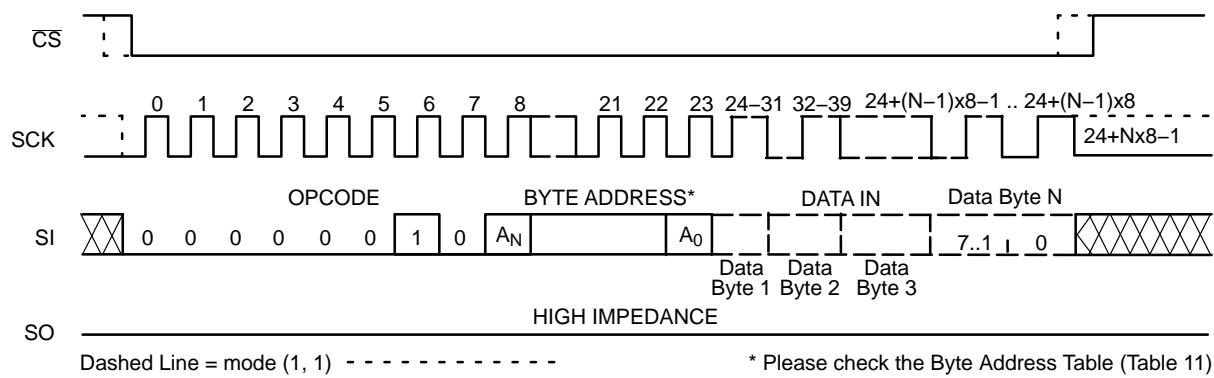

Figure 6. Page WRITE Timing
After sending the first data byte to the NV25xxx, the host may continue sending data, up to a total of 32 bytes, according to timing shown in Figure 6. After each data byte, the lower order address bits are automatically incremented, while the higher order address bits (page address) remain unchanged. If during this process the end of page is exceeded, then loading will "roll over" to the first byte in the
The additional 32-byte Identification Page (IP) can be written with user data using the same Write commands sequence as used for Page Write to the main memory array (Figure 6). **The IPL bit from the Status Register must be set ($IPL = 1$) using the WRSR instruction, before attempting to write to the IP.** The address bits [A15:A5] are Don't Care and the [A4:A0] bits define the byte address within the Identification Page. In addition, the Byte Address must point to a location outside the protected area defined by the BP1, BP0 bits from the Status Register. When the full memory array is write protected (BP1, BP0 = 1,1), the write instruction to the IP is not accepted and not executed. Also, the write to the IP is not accepted if the LIP bit from the Status Register is set to 1 (the page is locked in Read-only mode).